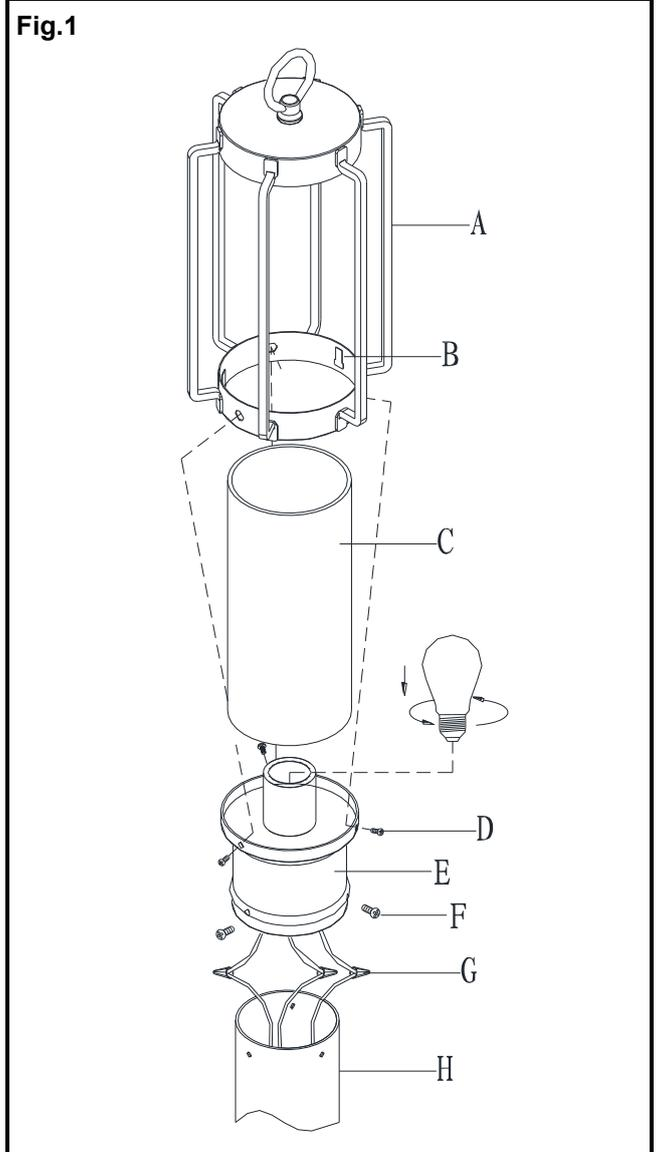

Fig. 2
CONNECTING THE WIRES (Fig. 2)
3. While supporting the fixture, connect the electrical wires as shown in Fig. 2, making sure that all wire connectors (G) are secured. If your post has a ground wire (green or bare copper), connect the fixture ground wire to it. If not, consult your electrician for proper grounding. After wires are connected, tuck them carefully inside the post cup (H) (not included).